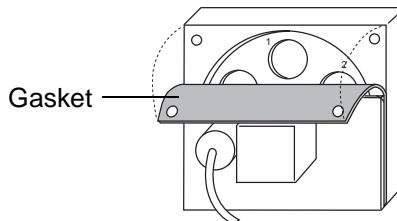

Figure 6-5 Accessing the Filter
6. Fold down the gasket in the filter assembly to gain access to the filter (Figure 6-5). Then locate the filter installation tool provided with the Accessories kit.